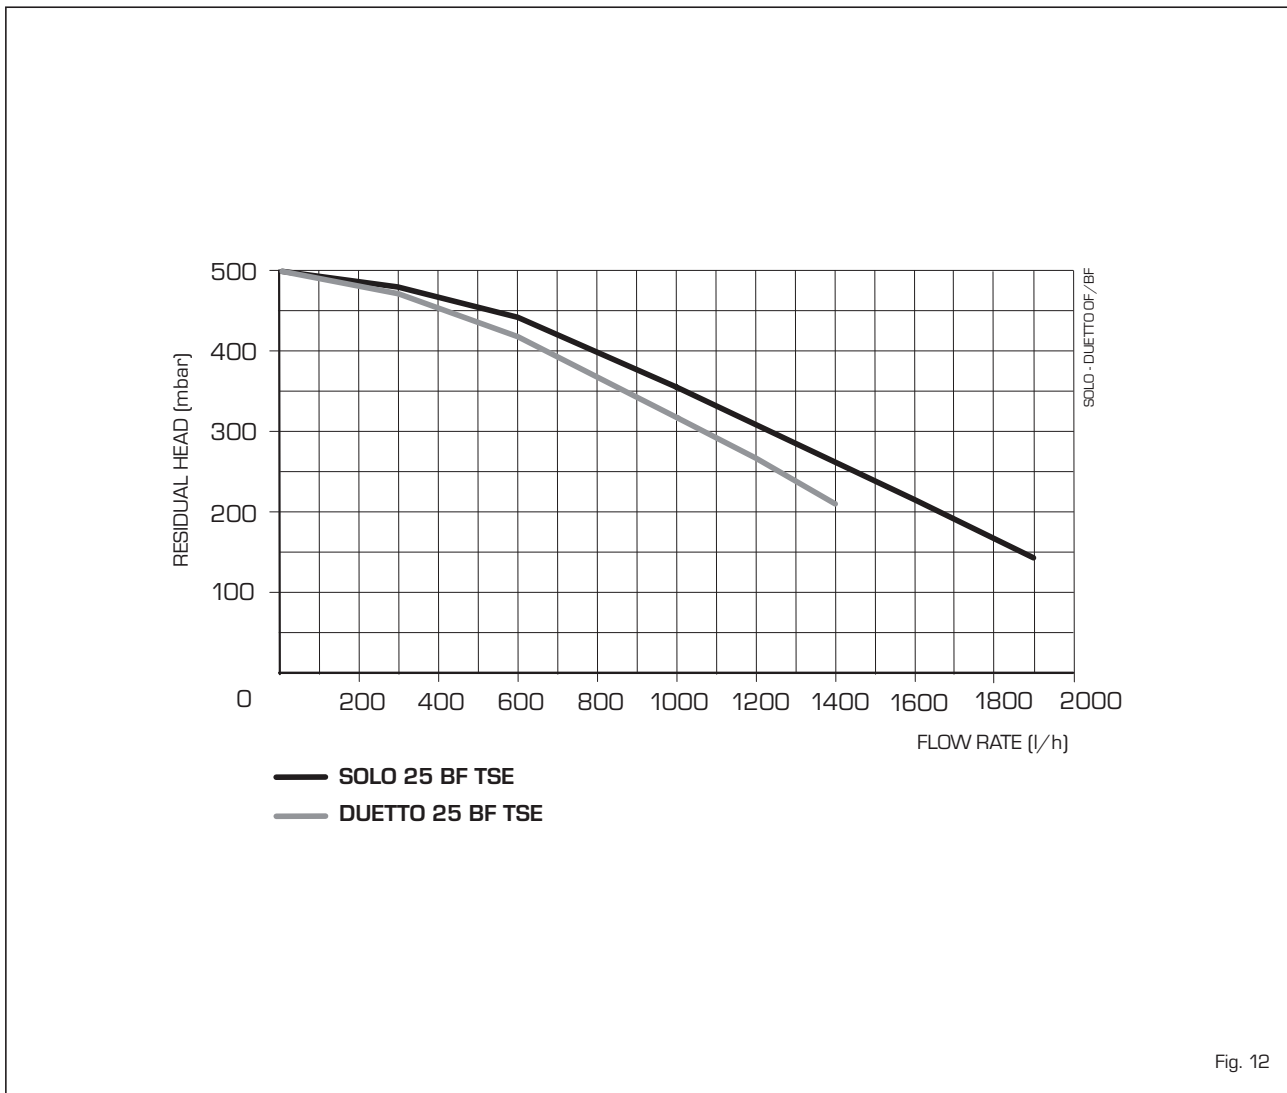

Fig. 12
3.2 SYSTEM AVAILABLE HEAD (fig. 12)
The head available for the heating plant is shown as a function of the flow in graph in fig. 12.